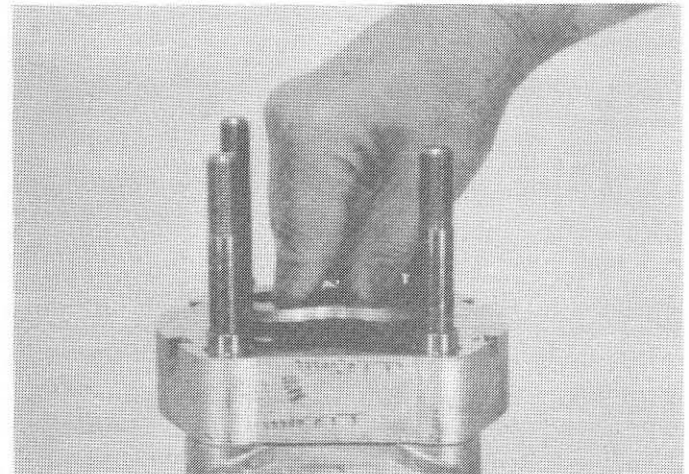

FIG. 8
10. Reach inside the gear plate and grasp pressure plate (13). Carefully start lifting it out of the gear bores. If it hangs as you move it up, work it gently back and forth until it will slide out freely. Remove o-ring (12) from the journal bores in the pressure plate. (Fig. 8)